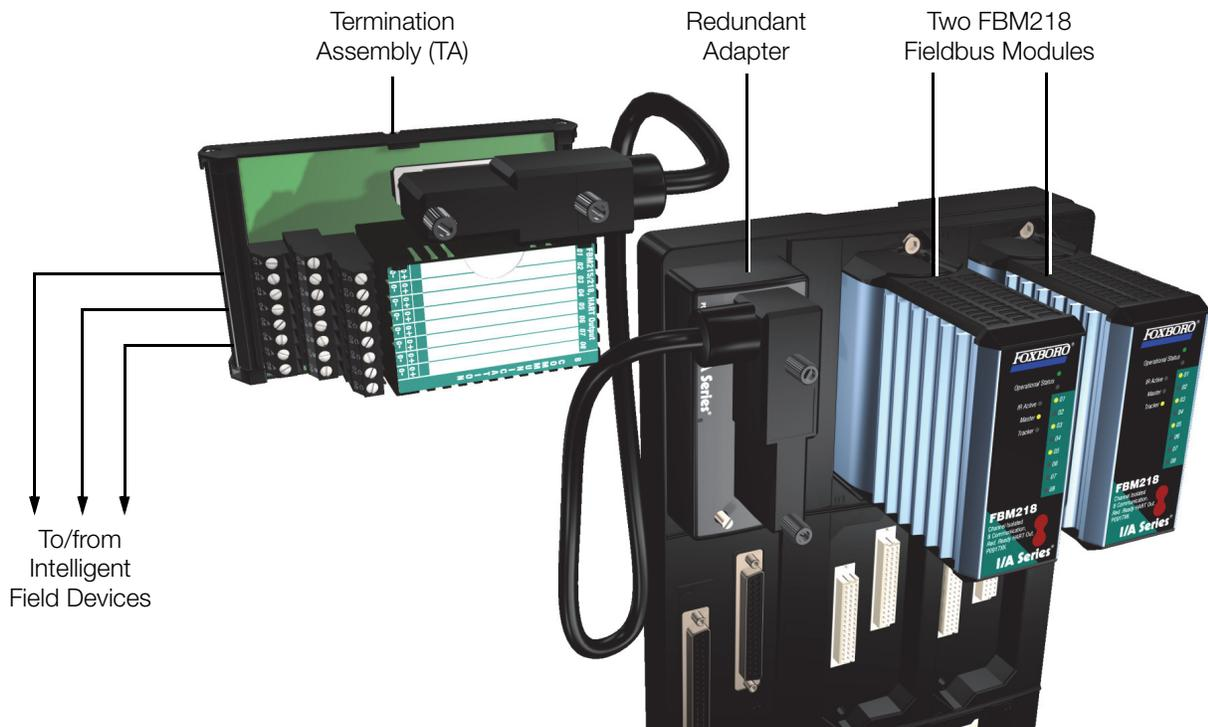

Figure 1. Redundant Module Configuration
A pair of the modules combines to provide redundancy at the Fieldbus Module (FBM) level, with field outputs wired to one common termination assembly (see Figure 1). In this configuration, one FBM218 is the Master, and the other is the Tracker.
Redundant modules must be located in adjacent positions on the baseplate (positions 1 and 2, 3 and 4, 5 and 6, or 7 and 8). To achieve redundancy, a redundant adapter module is placed on the two adjacent baseplate termination cable connectors to provide a single termination cable connection (see Figure 1). A single termination cable connects from the redundant adapter to the associated termination assembly (TA).